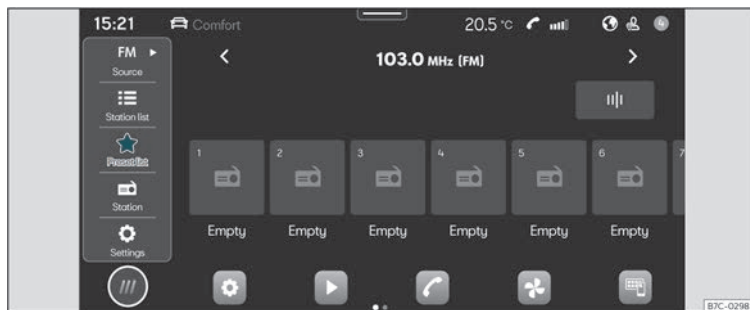

Fig. 132 Schematic representation: Radio view
- Press **HOME** > >>> **Fig. 132** .